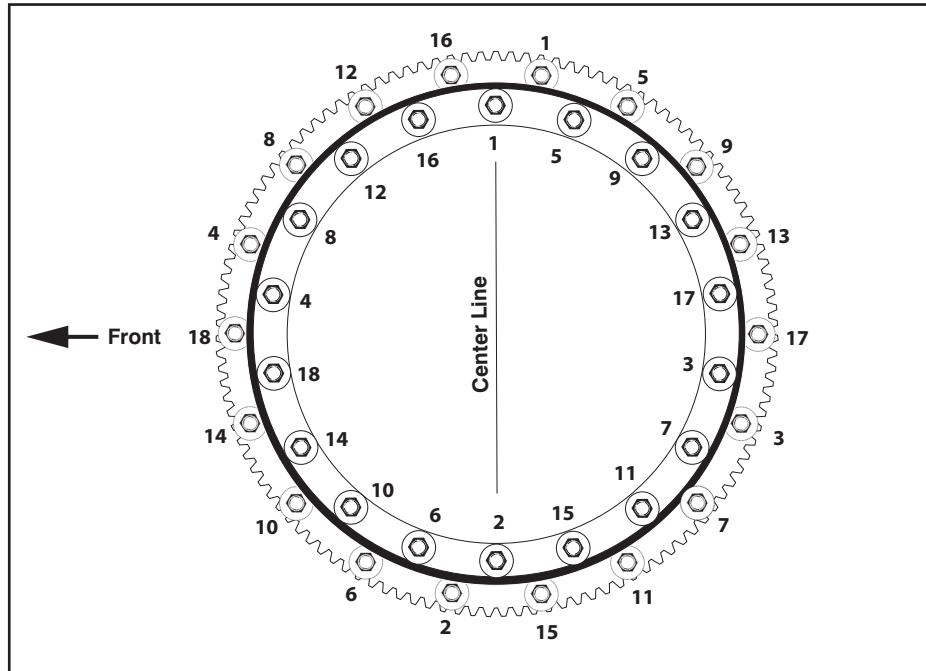

Figure 3-60. Swing Bearing Torque Sequence
3. Refer to Torque Sequence diagram as shown in Figure 3-60., Swing Bearing Torque Sequence. Clean residue off new bearing bolts, then apply a light coating of Loctite #271 and install bolts and washers through frame and outer bearing race. Torque bolts to 190 ft-lb (258 Nm). Remove lifting equipment from bearing.
- c. Following Torque Sequence diagram shown in Figure 3-60., Swing Bearing Torque Sequence, torque bolts to 190 ft-lb (258 Nm) w/Loctite.
3. See Figure 3-60. Swing Bearing Torque Sequence.